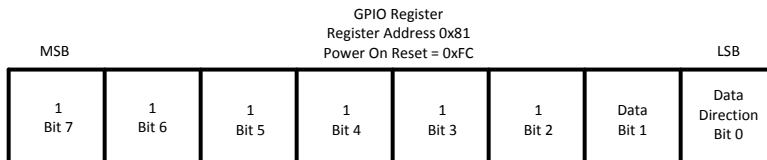

Figure 46. GPIO Register Description
| 00 = 1.6µs/bit (625kHz) 01 = 26ms/bit (38Hz) 10 = 52ms/bit (19Hz) 11 = 105ms/bit (9.5Hz) (1) | 001 = 100% 010 = 1/2 011 = 1/3 100 = 1/4 101 = 1/6 110 = 1/12 111 = Latch Pattern Into Shift Register (2) | X | X | 1 | HWEN/PGEN/GPIO is configured as a Pattern Generator Output with the frequency set by bits <7:6> and the duty cycle set by bits <5:3>. (See Figure 46.) |